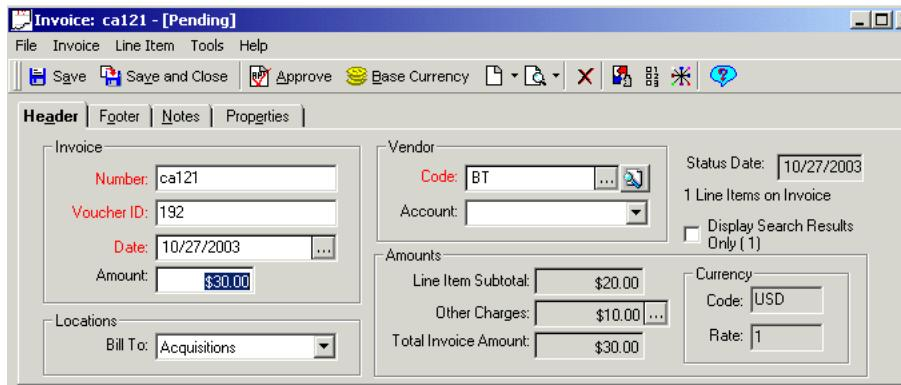

Figure 12-26. Pending invoice
- From an open pending invoice, verify that the amount entered in the **Amounts** field matches the sum of the line item costs and other charges in the **Total Invoice Amount** field (see Figure 12-26).